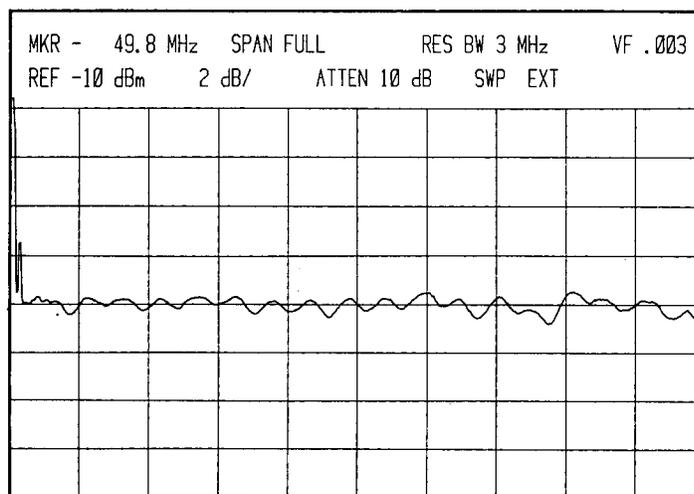

Figure 5-55. CRT Plot of Typical Frequency Response, 3.8 to 8.5 GHz
17. Center trace on center horizontal graticule line using REF LEVEL CAL screwdriver adjustment. Adjust A20R26 B3B for minimum slope of trace. Adjust A20R30 B3A counterclockwise so that right side of trace drops 2 dB. Readjust A20R26 B3B for minimum slope (see Figure 5-55). Using REF LEVEL CAL and REFERENCE LEVEL FINE, set best line at center horizontal graticule line. Do not readjust REF LEVEL CAL or REFERENCE LEVEL FINE in steps 19 through 32.